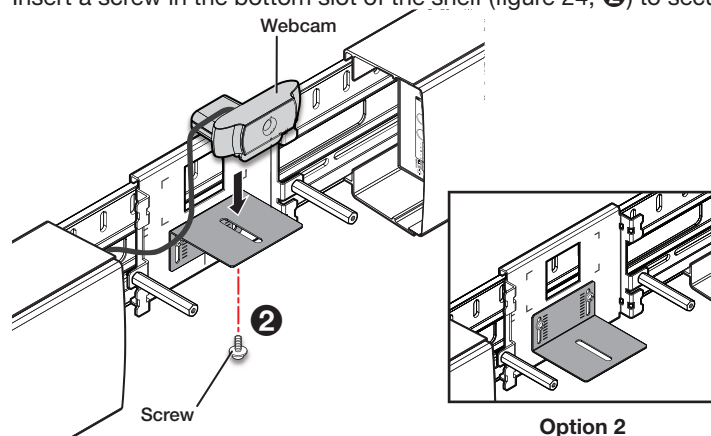

Figure 24. Securing the Webcam to the Shelf
For cameras that require more overhead clearance, the shelf can be inverted to accommodate taller webcams. See Option 2 of figure 24, below.
2. Insert a screw in the bottom slot of the shelf (figure 24, ②) to secure the webcam.